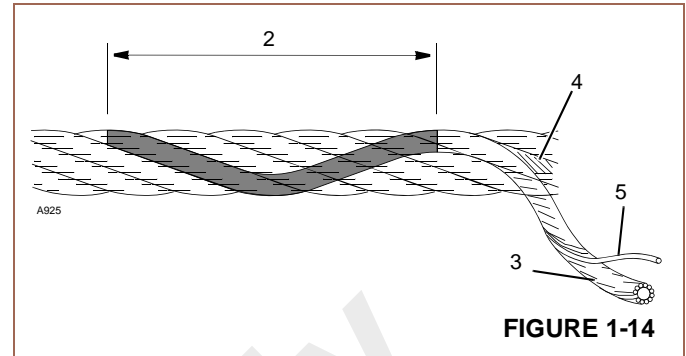

FIGURE 1-14
13. When checking for broken wires (5) Figure 1-14 relax the rope, move it off "pick-up points". Defect in the rope is in relation to "Lay Length" (2) which is the distance measured along rope in which one strand (3) makes one complete revolution around the core (4).